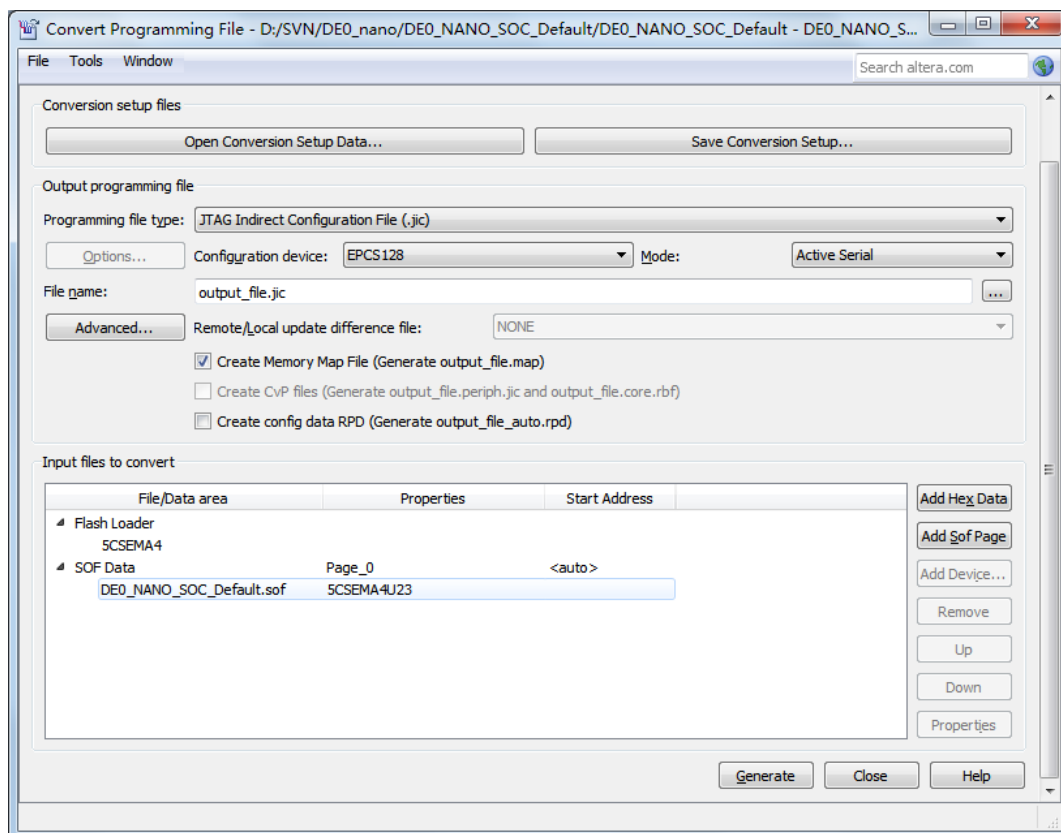

Figure 8-6 “Convert Programming Files” page after selecting the device
13. Click **OK** and the **Convert Programming Files** page will appear, as shown in Figure 8-6.